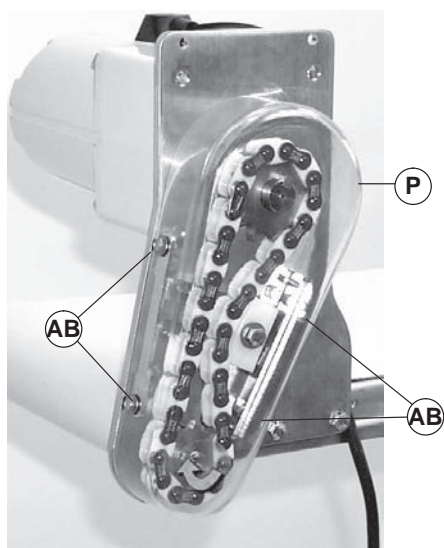

Figure 15
Do not over-tighten screws (Figure 15, item AB).
- Install cover (Figure 15, item P) and tighten four screws (AB) to 35 in-lb (4 Nm).